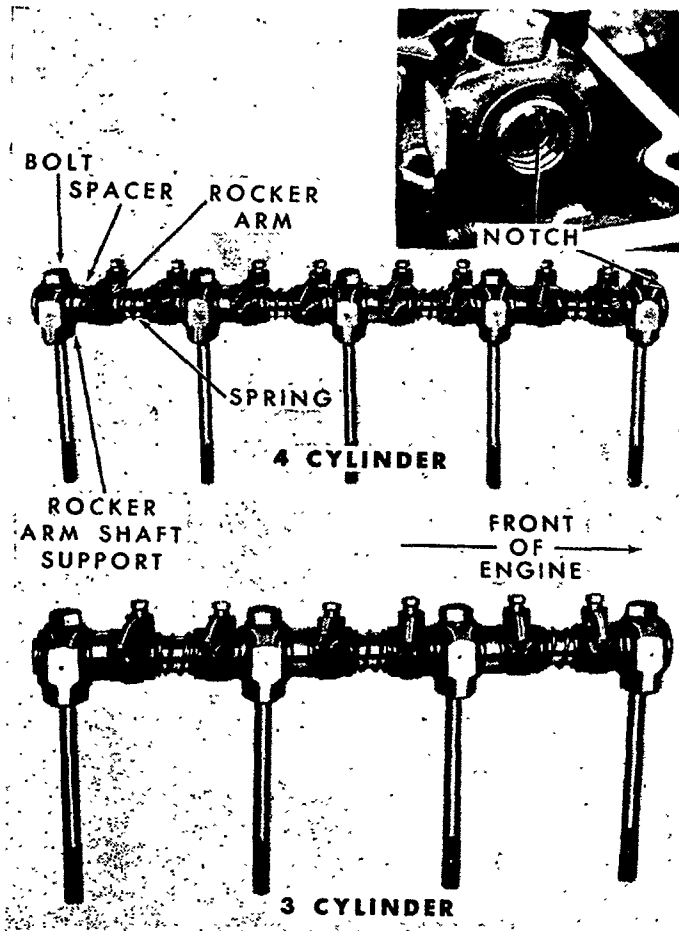

Figure 21
To disassemble the rocker shaft assembly, remove the bolts that attach the rocker shaft to the cylinder head from the rocker shaft supports, Figure 21.
2. The rocker shaft has an identification groove at one end of the shaft. Position the mark upward and use this end as the front of the shaft, Figure 21. This puts the oil holes and grooves in the shaft facing down.
4. Be sure the springs and spacers are in their correct position, as shown in Figure 21, then proceed with the assembly.